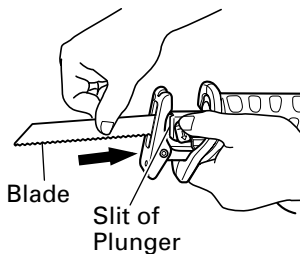
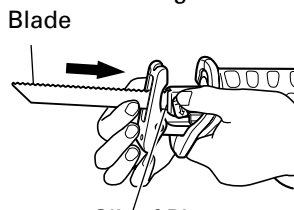

Fig. 4
Fig. 5
- (3) Insert the saw blade all the way into the small slit of the plunger tip with the lever pushing. You can mount this blade either in the upward or downward direction. (Fig. 4, Fig. 5)